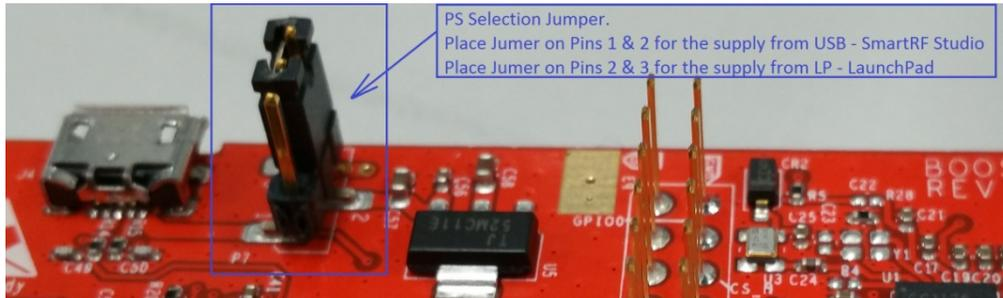

Figure 5. PS Jumper Location for LaunchPad Application
- (a) For use with MSP-EXP430F5529 LaunchPad, place the Jumper in between P7-2 to P7-3 to select the LaunchPad supply as the power source to the BoosterPack. The location of the connector P7 with the jumper position is shown in Figure 5.
- (b) For use with MSP-EXP430G2553 LaunchPad, remove the Jumper from P7 and connect an external 5 V (100 mA capable) power supply positive lead to the center pin (2) of P7 and the ground lead to the nearby ground pad.